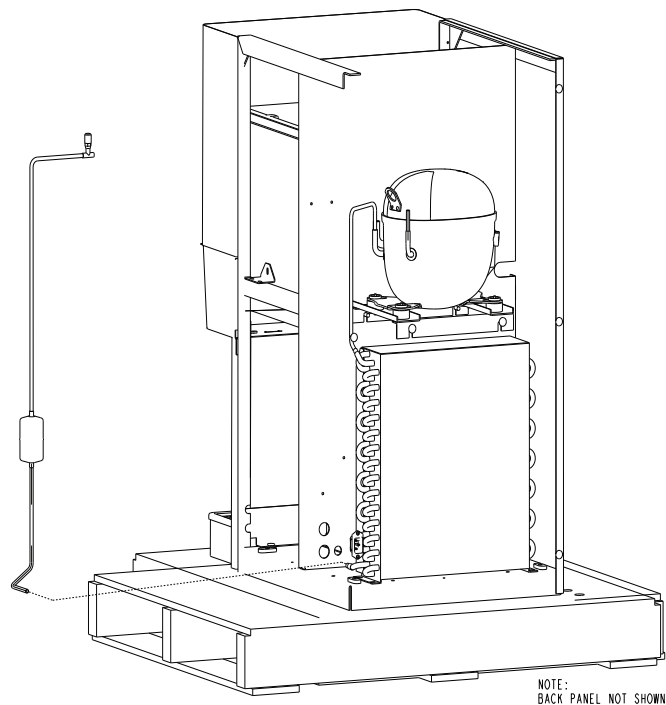

Figure 6. Connection of the Dryer assembly
8. Connect the Dryer assembly as shown in Figure 6.